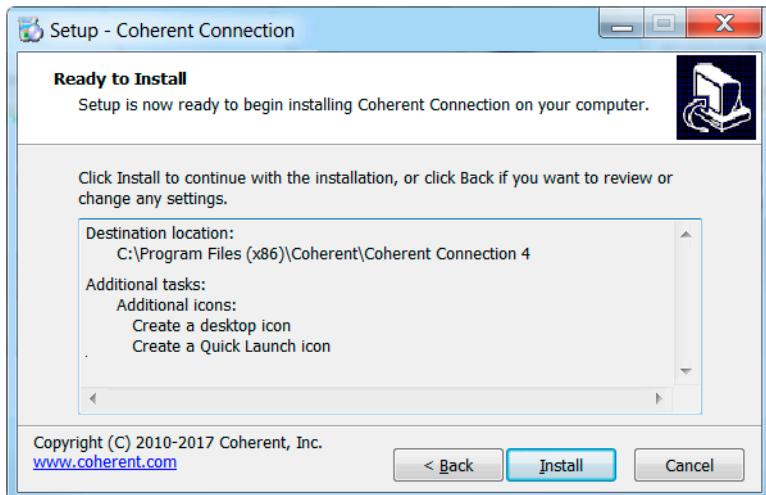

Figure 8-9. Review Set-Up before Installation Begins
11. The set-up utility is now ready to begin installing Coherent Connection 4 software on your workstation. Review the location and icons, as shown in the example in Figure 8-9, and then click Next.